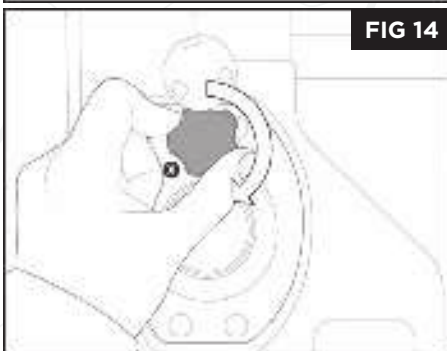

FIG 14
- Steer the watercraft using the rudder steering knob installed earlier **(I)**. This can be locked down using the rudder tension control knob **(X)** to hold direction or course **(fig 14)**.